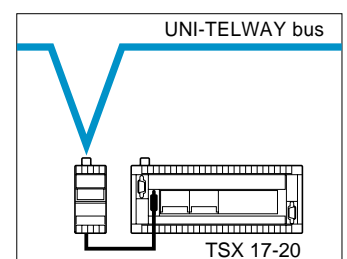

Figure 3
- 3 A screw terminal block for direct connection to the UNI-TELWAY bus (for connection details see figure 3 below)